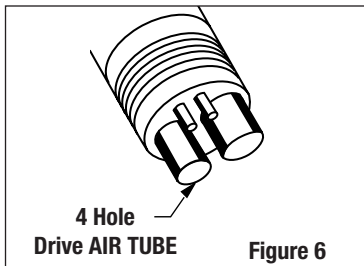

Figure 6
- b. Gently insert the plastic spray nozzle into drive air tube at hose end of handpiece as far as possible. Figure 6.